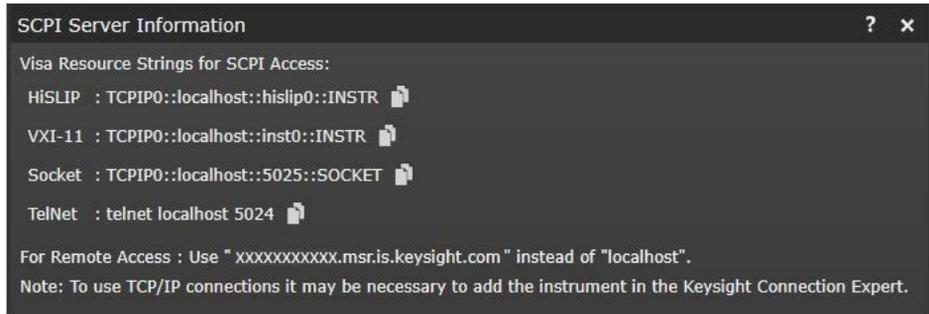

Figure 13 SCPI Server Information window on the M8070B Software
- In the **Enter/Select VISA address/alias (or SICL address):** text field, you can either type or copy the VISA/SICL address directly from the Keysight M8070B Software and paste it here. To verify the correct VISA address to connect to M8070B, access the **SCPI Server Information** window (Figure 13) by clicking **Utilities > SCPI Server Information...** from the main menu of the Keysight M8070B software.